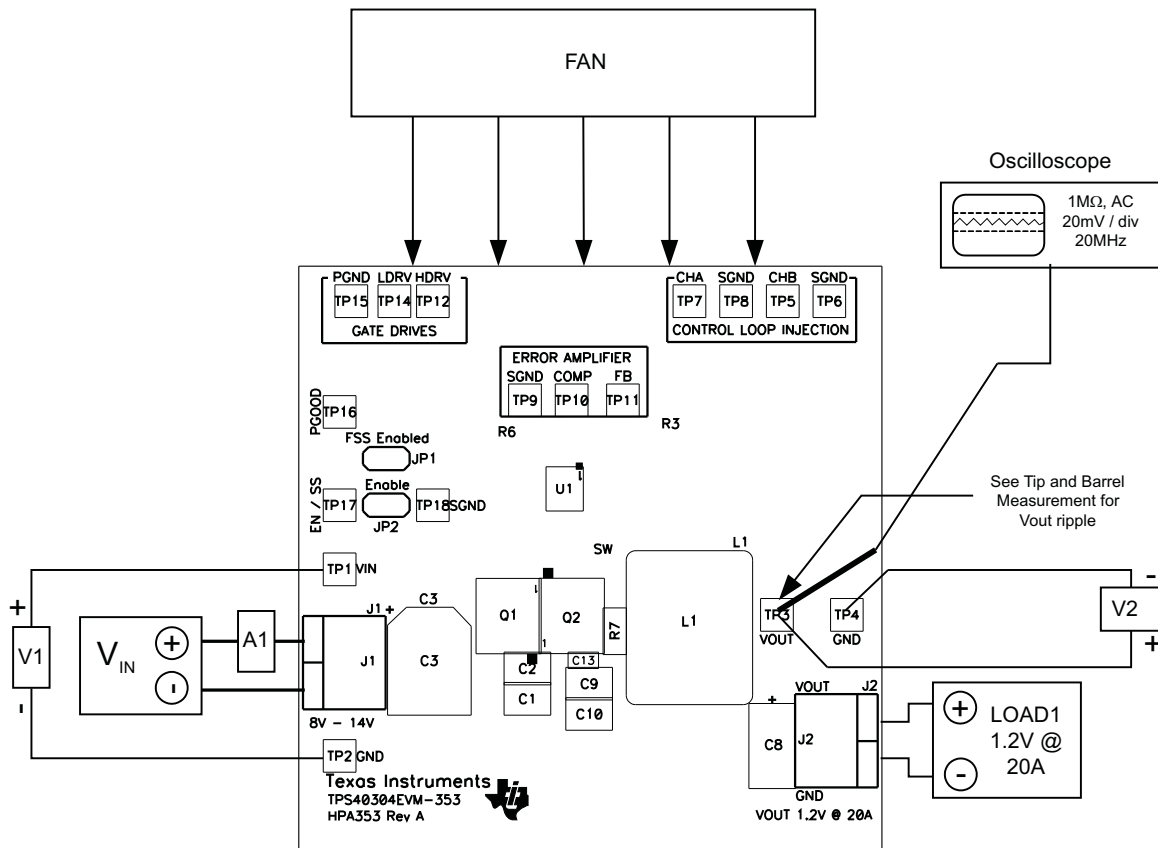

Figure 2. TPS40304EVM-353 Recommended Test Set-Up
Shown in Figure 2 is the basic test set up recommended to evaluate the TPS40304EVM-353. Note that although the return for J1 and JP2 are the same system ground, the connections should remain separate as shown in Figure 2.
2. Prior to connecting the dc input source, V_{IN} , it is advisable to limit the source current from V_{IN} to 4.0A maximum. Make sure V_{IN} is initially set to 0V and connected as shown in Figure 2.
3. Connect VIN to J1 as shown in Figure 2.
4. Connect ammeter A1 between VIN and J1 as shown in Figure 2.
5. Connect voltmeter V1 to TP1 and TP2 as shown in Figure 2.
6. Connect voltmeter V2 to TP3 and TP4 as shown in Figure 2.
8. Place fan as shown in Figure 2 and turn on making sure to blow air directly across the evaluation module.